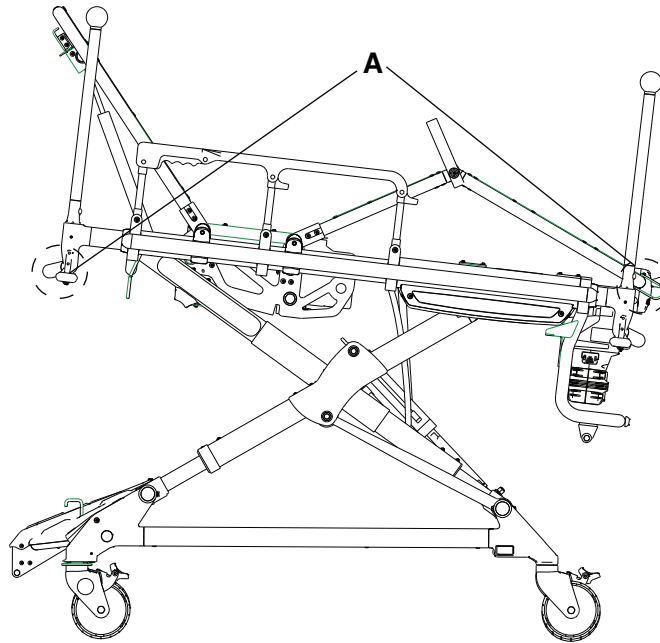

Figure 17 – Retract the head section or foot section
1. Squeeze the red release levers (A) on each side of the frame as you push the head or foot section out of its extended position (Figure 17).